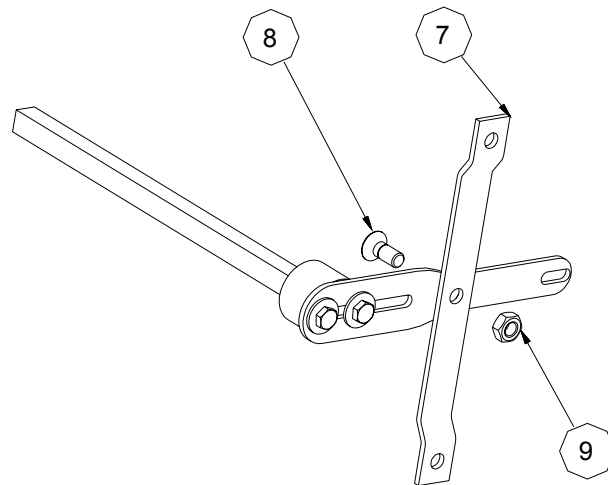

Figure.3
3. **GOVERNOR LINKAGE PLACING:** One of the screwed arms must be fixed to the governor linkage (7), through the M10 x 25 DIN 7991 8.8 screw (8) and the M10 DIN 985 Autoblock nut (9) – Fig. 3 –.